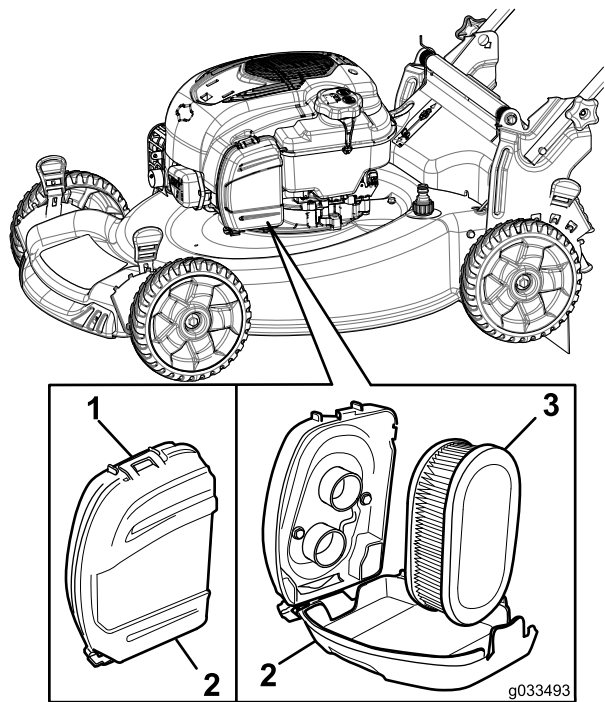

Figure 30
1. Unclip the top of the air-filter cover (Figure 30).
2. Remove the air filter (Figure 30).